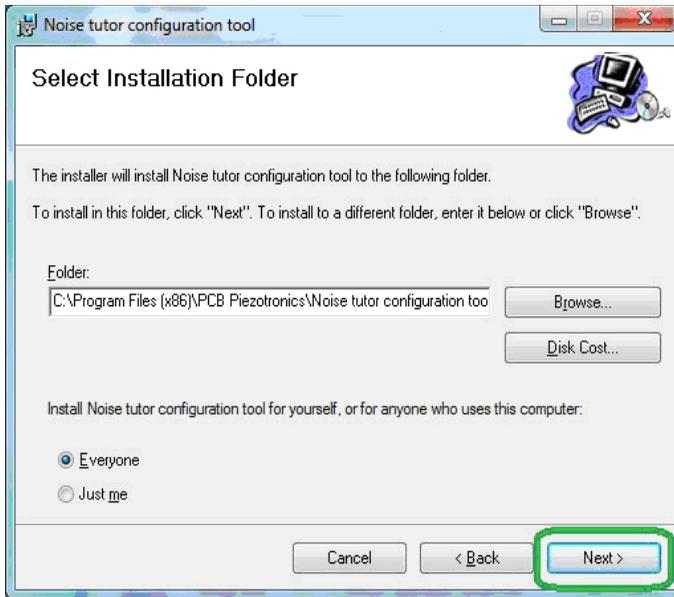

FIGURE 2-18 Configuration Tool Installer - Select Installation Folder
- Step 4** Select the folder where you want to install the NoiseTutor Configuration Tool, as shown in FIGURE 2-18.